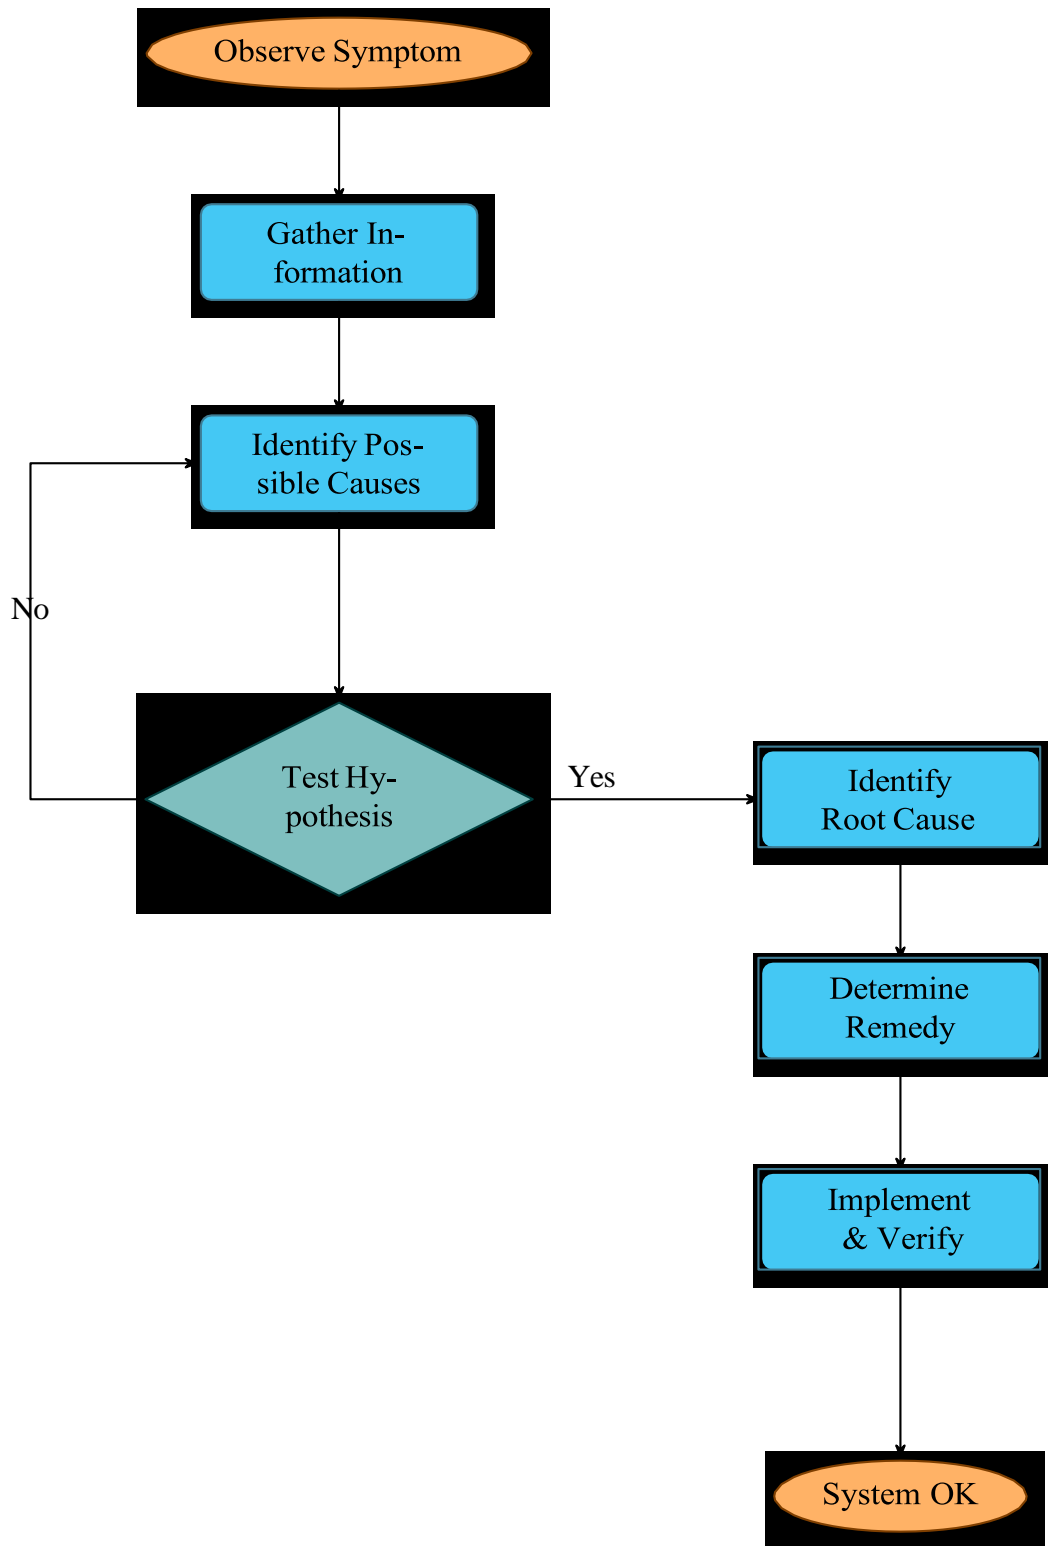

Figure 8.6: A flowchart of the systematic troubleshooting loop.
**2. The Troubleshooting Loop (Symptom-Cause-Remedy)** A systematic approach can be thought of as a continuous loop. The flowchart in Figure 8.6 shows this process.